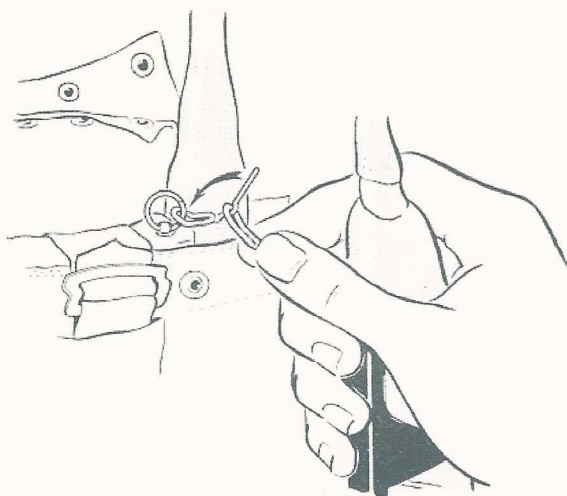

Fig. 7. Connecting the beacon to the battery switch pin: fourth stage
(5) Place the loop at the end of the cord over the beacon switch release pin as shown in fig. 7 and position the pin as shown by the arrow so that it retains the loop of cord.